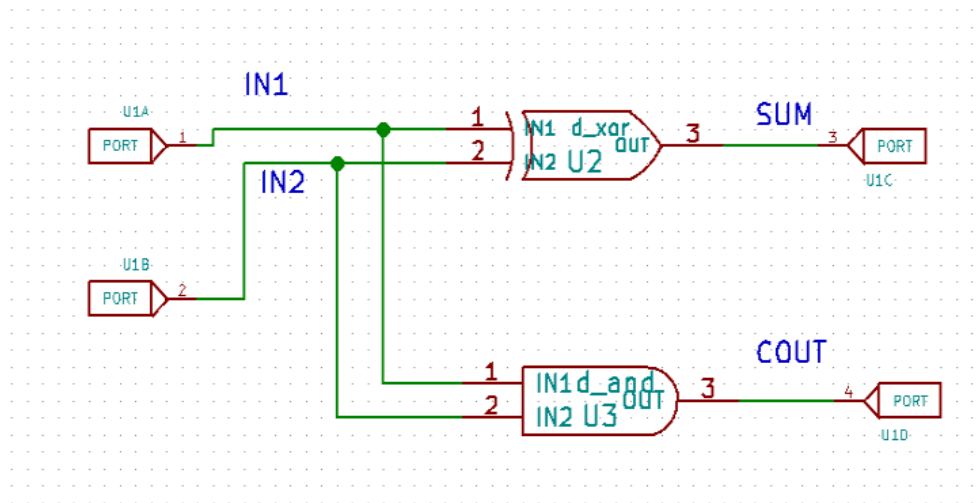
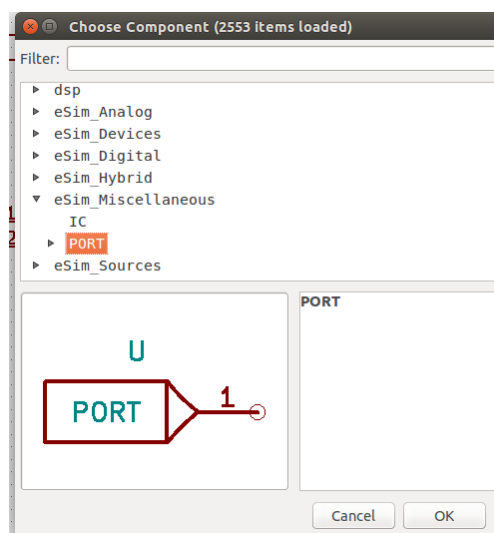

Figure 8.4: Half-Adder Subcircuit
Figure 8.5: Selection of PORT component
- Once you complete the circuit, assign port to the node of your circuit which will be used to connect with the main circuit. The circuit will look like Fig. 8.4 after adding PORT to it. The PORT symbol can be found in Eeschema as shown in Fig. 8.5.